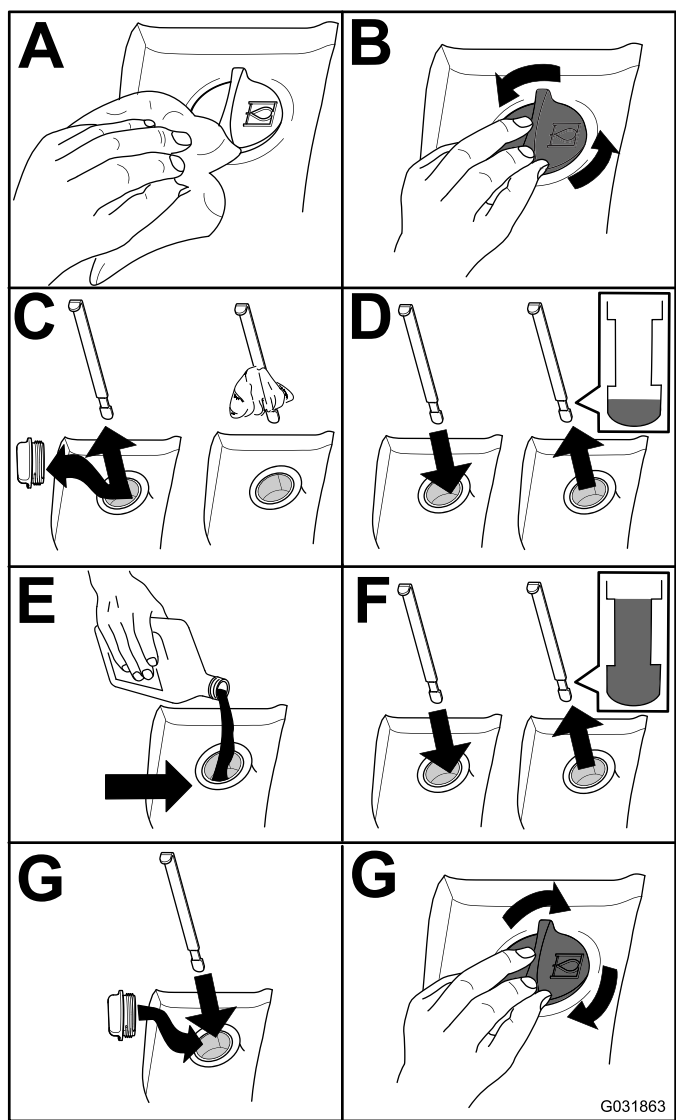

Figure 104
2. Check the hydraulic-fluid level (Figure 104).